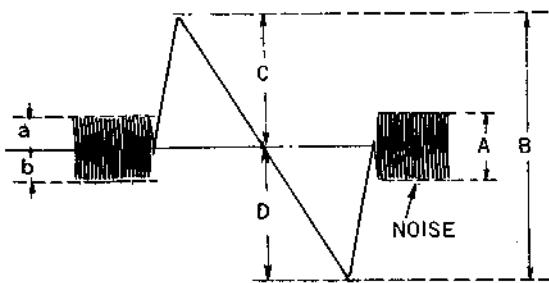

Fig. 3-2-2 "S" Curve Response
- (3) Turn the top core of IFT301 with the hexagonal-head alignment tool to obtain an "S" curve response as shown in Fig. 3-2-2.
- (6) Reset the top core of IFT₃₀₁ to equalize negative and positive peaks, as shown in Fig. 3-2-2 (C=D=1/2B)
- (7) Make sure that the "S" curve does not change when the shunting capacitor is removed from the input of the I-F section.
- (8) Disconnect the sweep generator and make sure that the scope displays only noise.